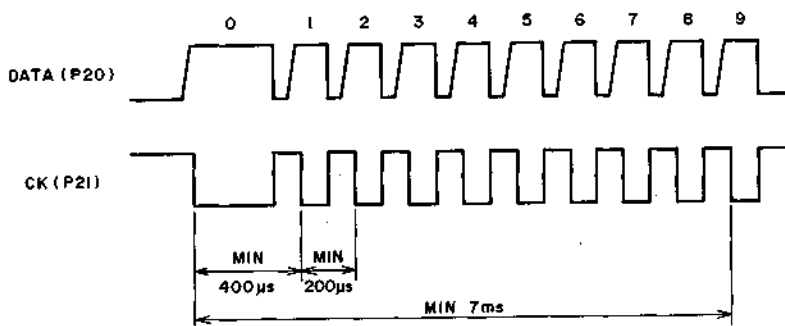

Fig. 5-3
- The minimum time from the 0 Bit CK to 1 Bit CK is 400 μ sec., and after that, the minimum time is 200 μ sec. (refer to Fig. 5-3)